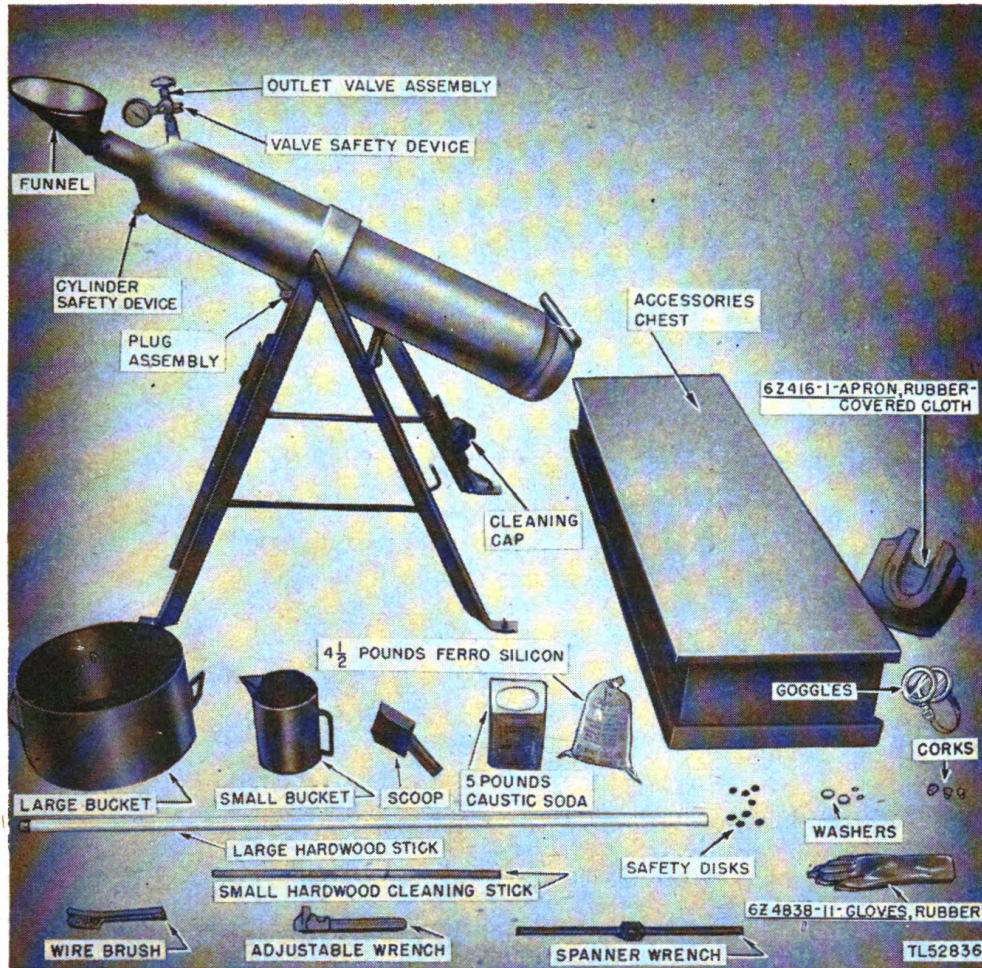

Figure 2. Generator ML-185-(*)(Hydrogen) and accessories, assembled.
a. **CYLINDER** (FIG. 2). The cylinder is of seamless steel construction and is 56 inches long and $9\frac{9}{16}$ inches in outside diameter.
7. Support Assembly (fig. 2)